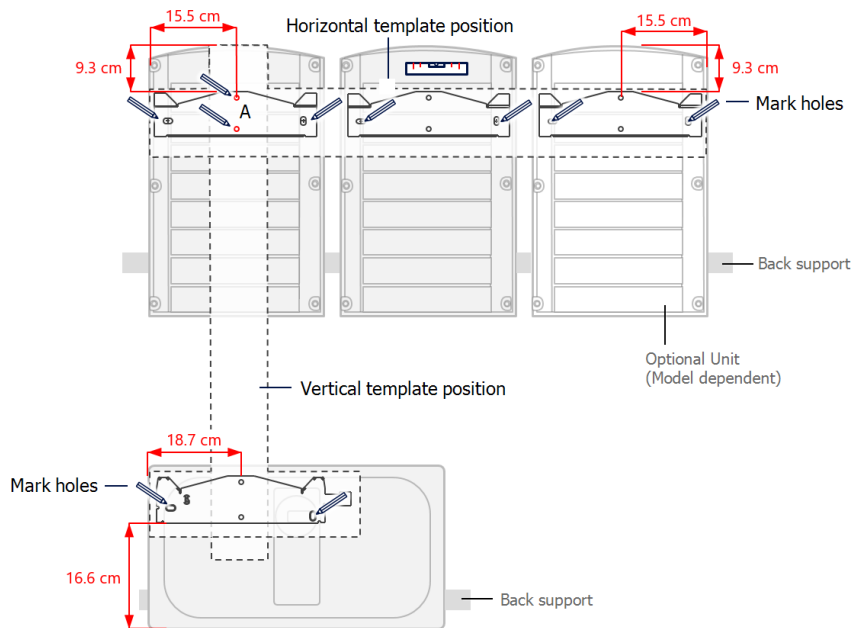

Figure 16: Marking the locations to drill the holes
When installing the inverter on a stud framing or a rail, avoid wobbly installation by adding back support at the lower back side of the Synergy Manager and Synergy Units (See Figure 16).
3. Level the mounting template horizontally against the wall and mark the drilling hole locations for the bracket of the Synergy Units (see pencil icons in Figure 16).